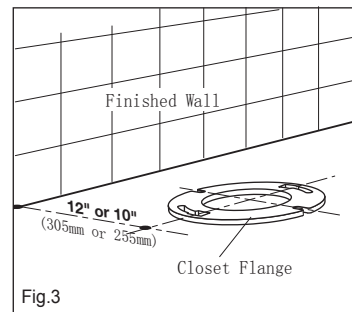

Fig.3
1. It is important for the installation of Caravelle Smart 1 PC Washdown toilet that the closet flange be accurately set out from the finished wall as detailed in Fig.3.